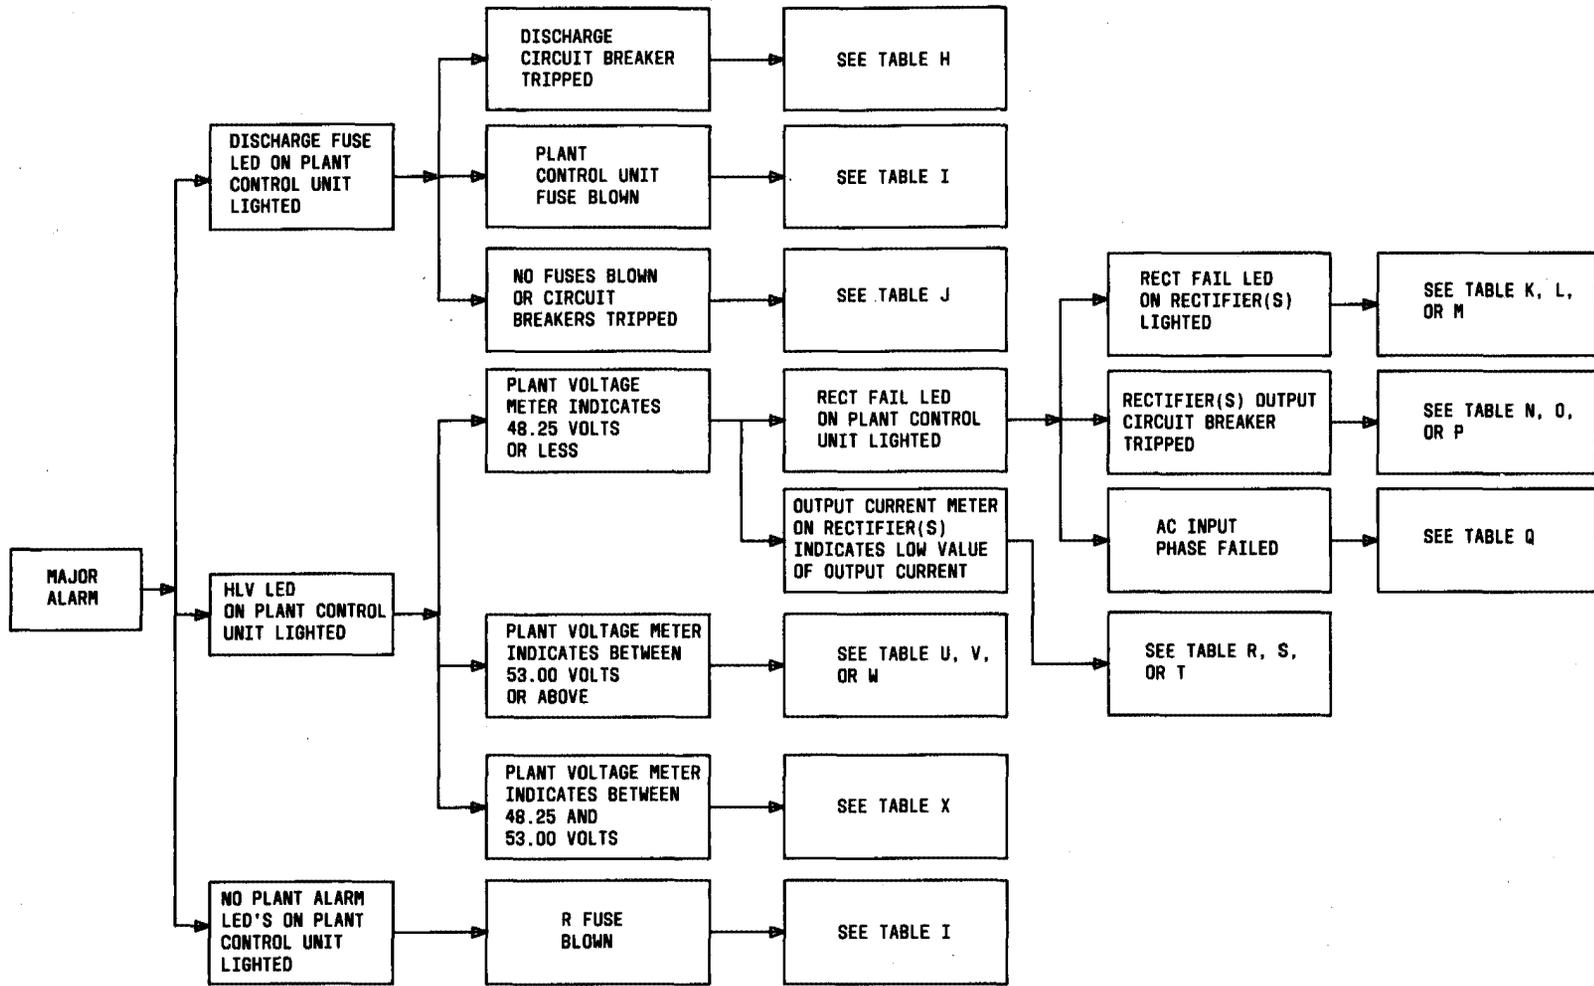

Fig. 17— 151C Power Plant Trouble Flowchart—Major Alarm
**8.02** To assist in locating the correct trouble chart, when an alarm has been given, the trouble flowcharts of Fig. 17 and 18 are provided. In general, equipment should be visually inspected for faulty connections, shorts, broken wires, and burned components. It is suggested that the probable causes of troubles listed in the trouble charts be checked in the order given. If the trouble cannot be located and corrected with the assistance of the trouble charts, then refer to the proper schematic diagrams and circuit descriptions for further information (see paragraph